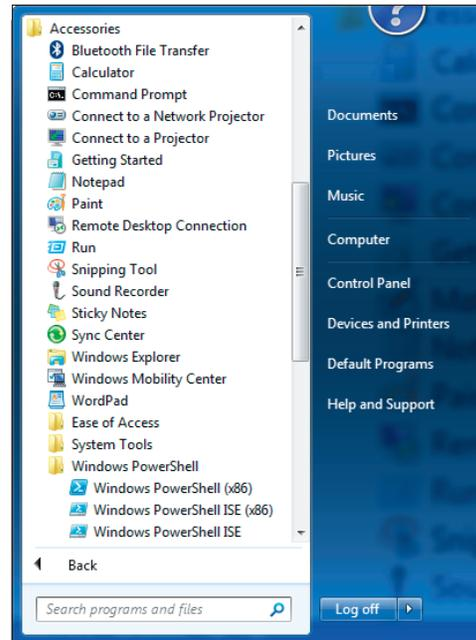

Figure 15. The Windows Accessories drop-down menu.
STEP 1. Click on the **Windows Start** menu. Open the Accessories>Windows Powershell folders, and run Windows Powershell ISE (x86) program. See Figure 15.